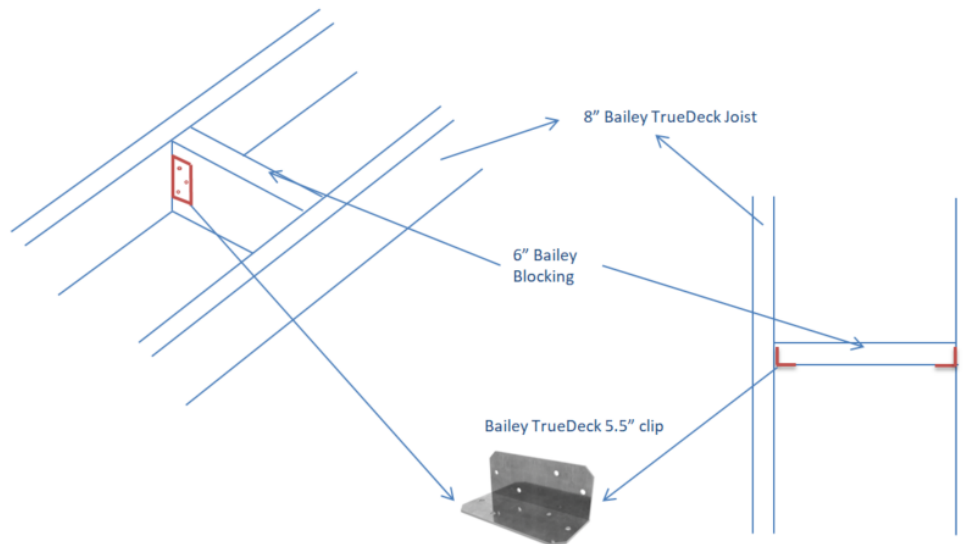

Figure 23
8. **Mid-span blocking Installation:** Blocking is installed to avoid the joists toppling /moving due to the torque. Blocking is essentially a smaller length piece of 6" wide joist. The blocking connections are achieved through a 5 1/2" BAILEY TRUEDECK clip and mid-span blocking joist. Blocking are available in 2 sizes – 11.75" long (for 12" O.C. spacing) and 15.75" long (for 16" O. C spacing). Refer to Figure 23 for connection details.